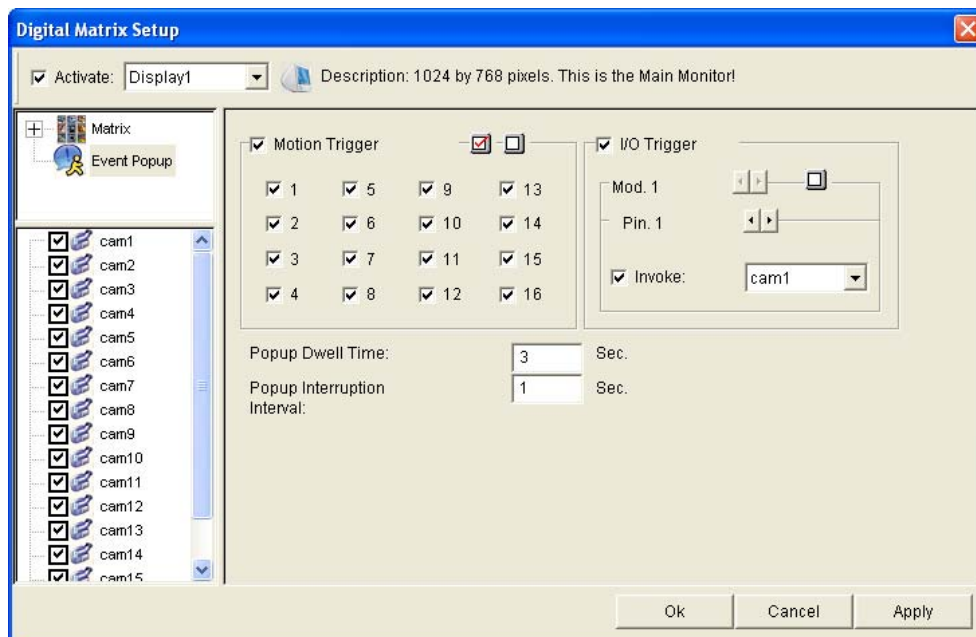

Figure 2-8
2. To configure pop-up alert, in the upper left column, click **Event Popup**. Figure 2-8 appears.